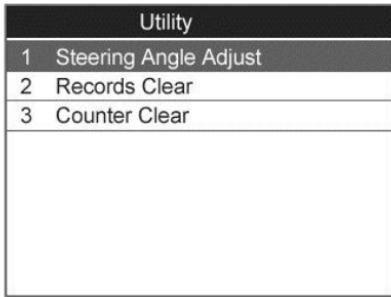

Figure 10.11
- 1) From the **Utility** function menu (Figure 10.11) use the **UP/DOWN** scroll button to select **Steering Angle Adjust** and press the **OK** button.
- 1) From the Utility function menu (Figure 10.11) use the **UP/DOWN** scroll button to select **Records Clear** and press the **OK** button.
- 1) From the Utility function menu (*Figure 10.11*) use the **UP/DOWN** scroll button to select **Counter Clear** and press the **OK** button.